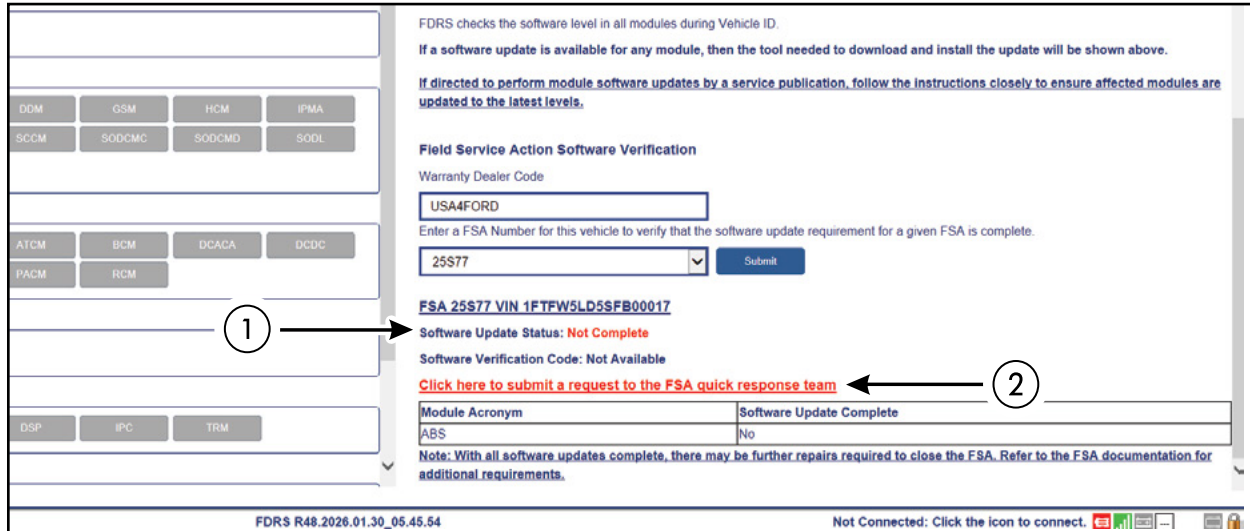

FIGURE 4
20. Use the "Click Here to submit a request to the FSA quick response team" link (2) shown in Figure 4. Follow the on-screen prompts to enter the following information:
22. If the FDRS Field Service Action Software Verification Status displays "**An error occurred. Unable to retrieve FSA information**", please reattempt to generate an SVC code. The error can be caused by a connectivity or server issue where the status of the FSA cannot be verified. This is typically resolved upon reattempting to generate an SVC code. See Figure 4.